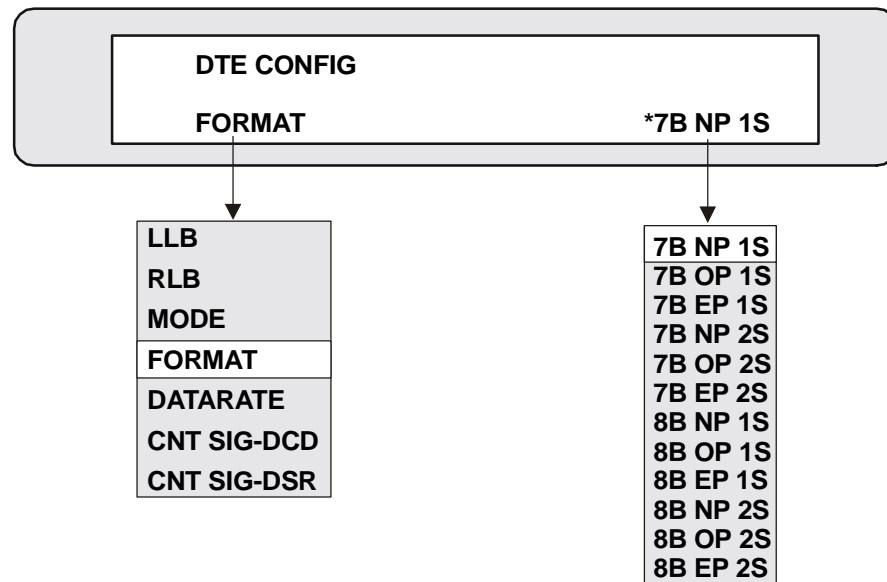

Figure 4-6. Selecting Data Format
4. Press the SCROLL button until FORMAT is displayed (see Figure 4-6).